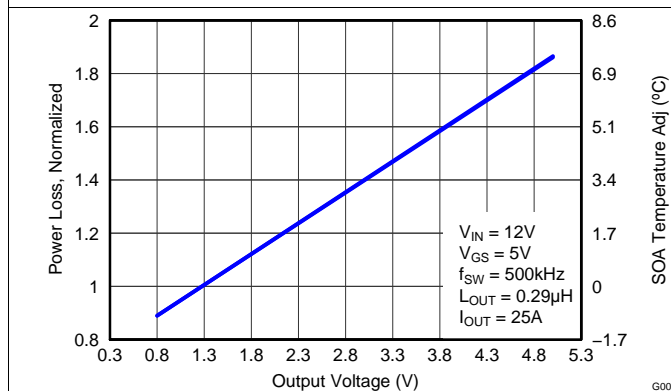

Figure 7. Normalized Power Loss vs Output Voltage
- Normalized Power Loss for output voltage ≈ 0.94 (Figure 7)
- SOA adjustment for output voltage $\approx -0.5^\circ\text{C}$ (Figure 7)